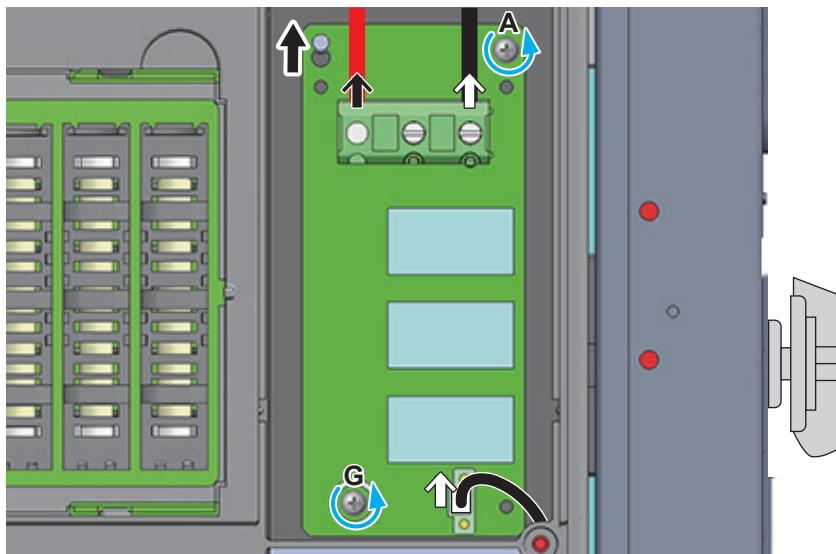

Figure 5-8: Remove wirings as connectors of DC SPD
- To remove the defective DC SPD (Figure 5-8)**
3. Remove two self-retaining screws located on the right (DC) side of the DC SPD PCB.
Tighten the five screws to a torque value shown in **Figure 5-8**.